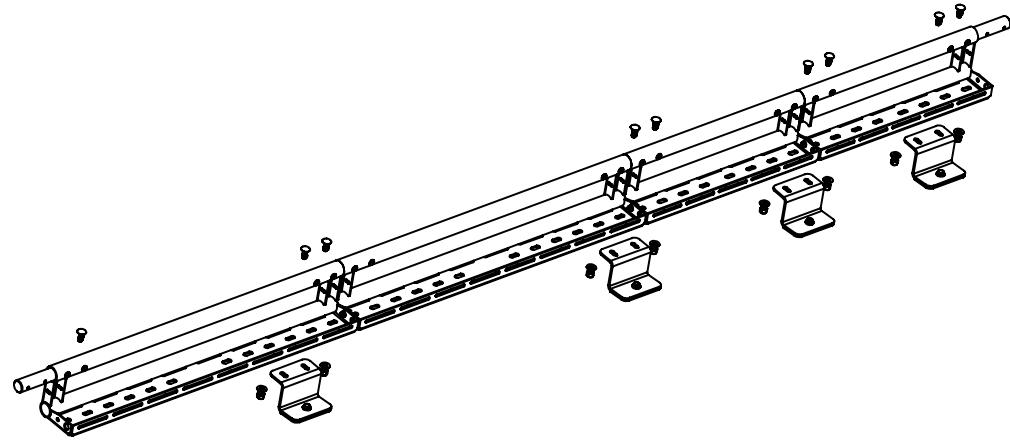

FIG 12
5.1 Mount Side Rails to Van Rails: With assistance, lift the Side Rail Assembly onto the roof. Align the Side Rail Assembly with the mounting holes of the Foot Brackets and secure loosely using 3/8-16" Carriage Bolts, Flat Washers and Nylon Locknuts as shown in FIG 12+13.